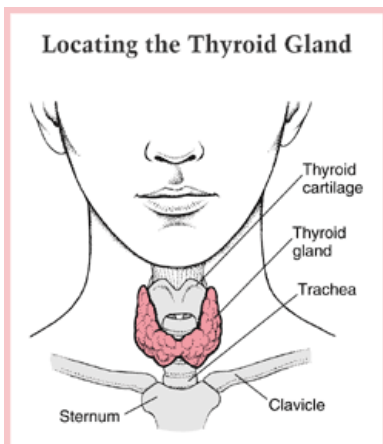

Figure1: Location of the Thyroid
- THYROID COUNT (reading) - Hold detector close to your thyroid at a distance of 2 cm (see Figure 1: Location of the Thyroid). Take a reading after 60 seconds and record the result in the thyroid screening log (Appendix A). Calculate the net thyroid count by subtracting the background and record the result in the thyroid screening log (Appendix A).